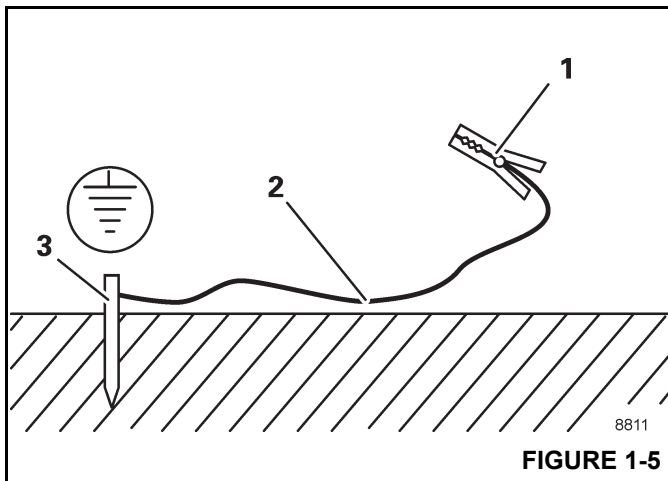

FIGURE 1-5
1. Hammer a metal rod (3, Figure 1-5) (length of approximately 2.0 m (6.6 ft)) at least 1.5 m (5 ft) into the ground.
2. Moisten the soil around the metal rod (3) for better conductivity.
3. Clamp an insulated cable (2) to the metal rod (3), cross-section of at least 16 mm² (0.025 inches²).
4. Connect the free end of the cable with a clamp (1) to a good electrically conductive location on the frame.